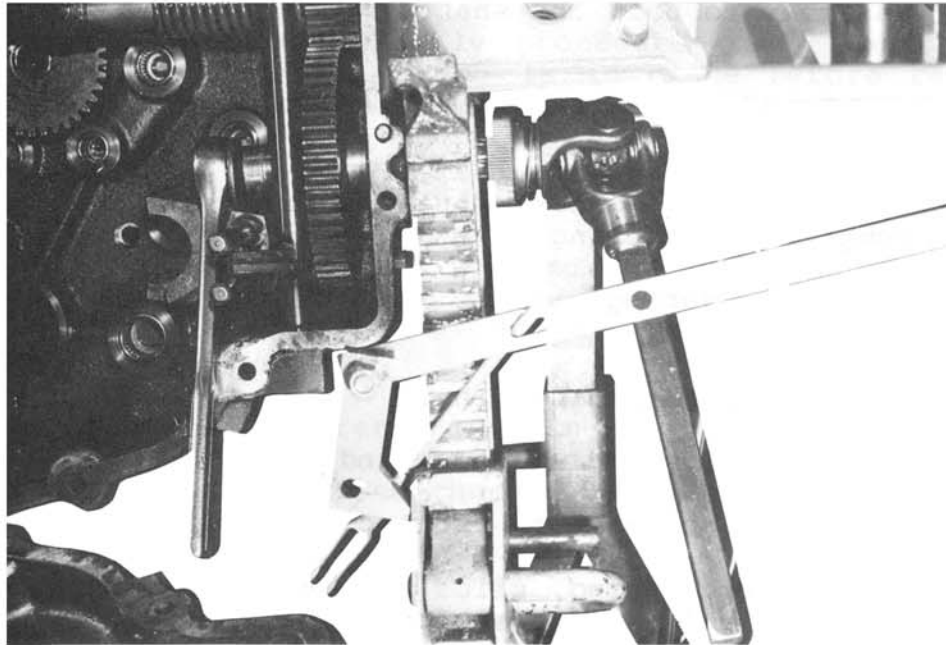

FIGURE 27
- a. Put the male universal shaft on the PTO shaft. Rotate the U-joint to 90° and rotate against the tractor frame. See Figure 27.